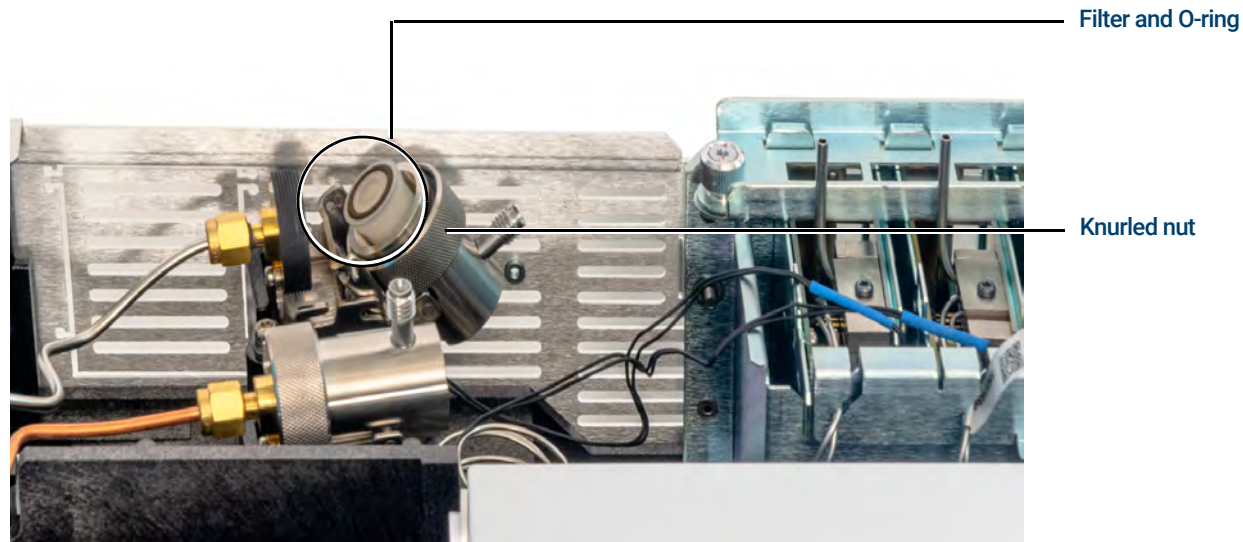

Figure 31. Slide trap assembly to expose the filter
- 5 Slide the trap assembly back from the guided mounting bracket and tilt up to expose the filter as shown in **Figure 31**.